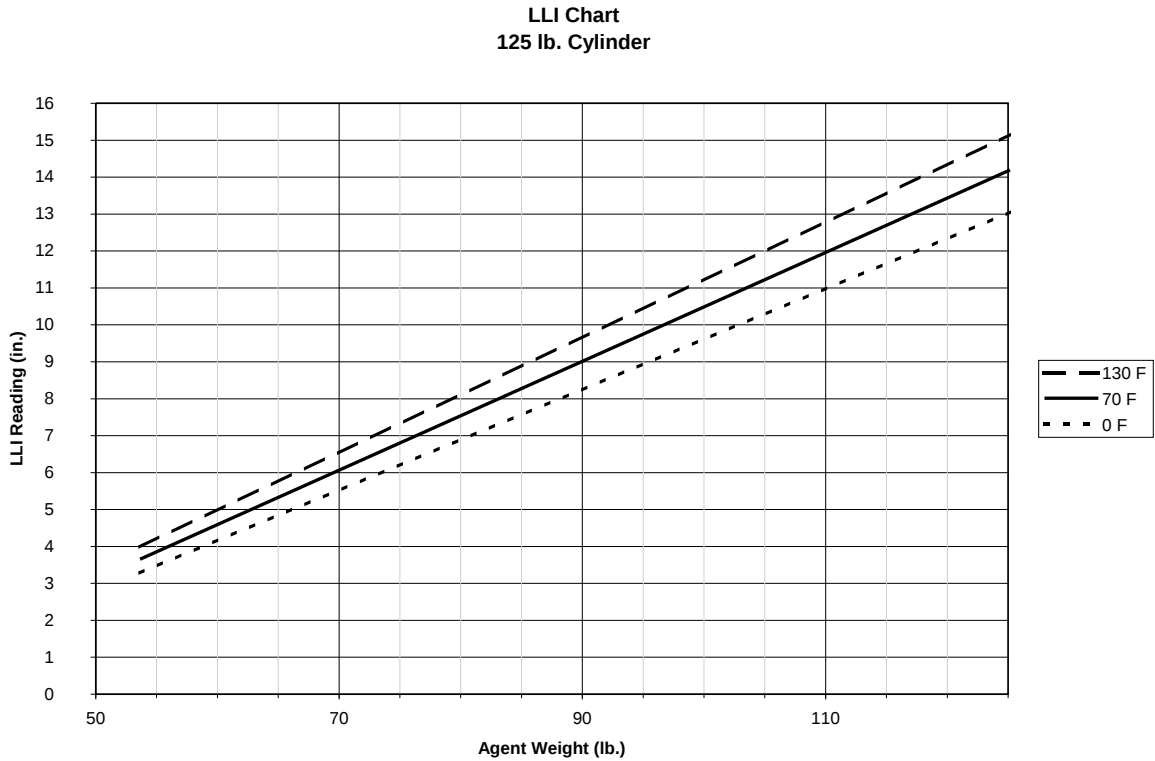

Figure 6-2. Calibration Chart 125 lb. Cylinder
7. Refer to the appropriate calibration charts (see Figures 6-2 through 6-6) and locate the level reading on the vertical axis (labeled Flexible Tape Reading). Trace horizontally to the right to the appropriate temperature line. Read the weight of Kidde Engineered System from the scale at the bottom of the chart. Record the weight and date on the record tag attached to the cylinder.